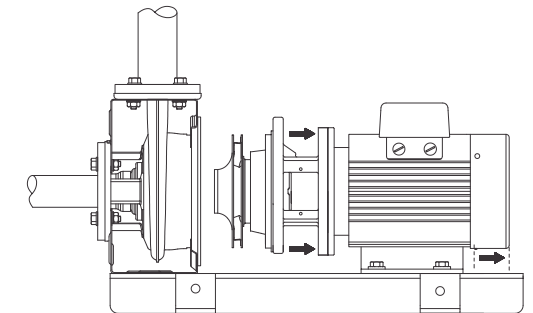
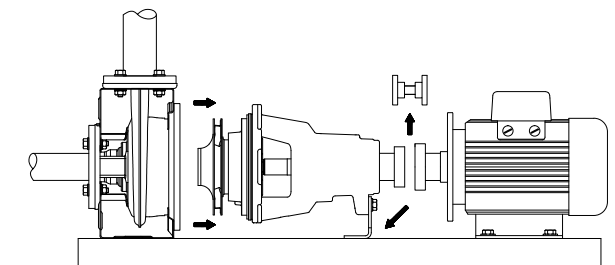

Fig. 1 SNB back pull-out design
Fig. 2 SNK back pull-out design
- The pumps are of the back pull-out design enabling removal of the motor, coupling, bearing bracket and impeller without disturbing the pump housing or pipework. Even the largest pumps can thus be serviced by a single person with a crane. See fig. 1 and fig. 2.